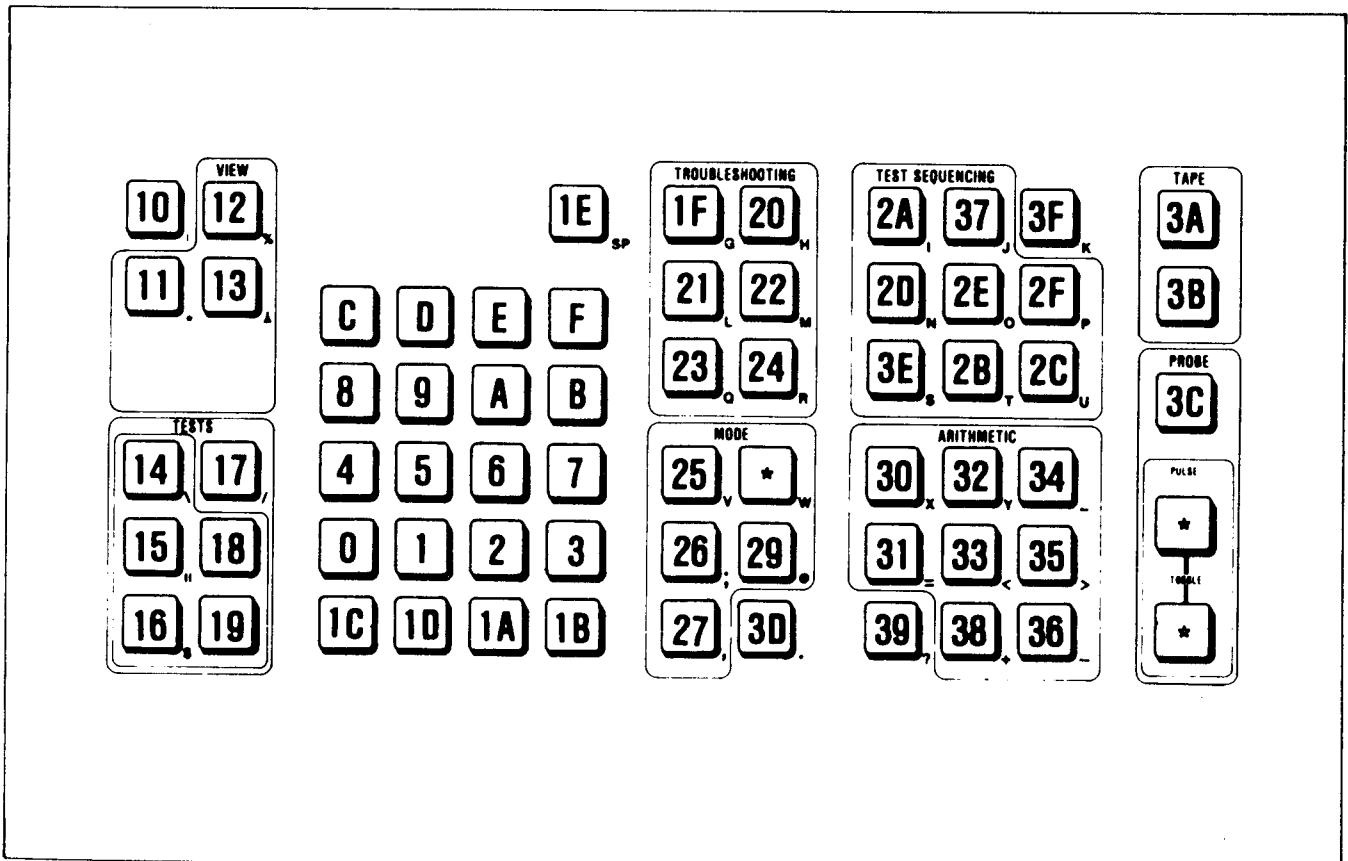

Figure 4-3. Asynchronous Input Values
4. The display reads KEY=. Press all keys except STOP, LOW or HIGH and verify the hexadecimal value is the same as shown in Figure 4-3. Press STOP to exit program.